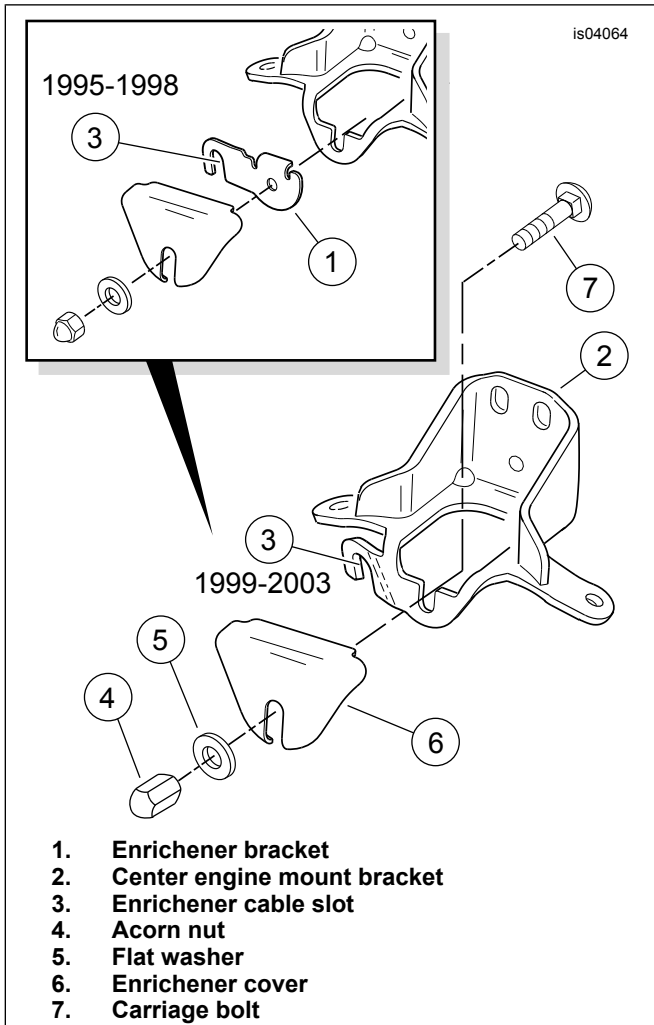

Figure 5. Original Enrichener Bracket, 1995-2003 Models
5. See Figure 5. Loosen the nut on the back of the enricher cable. Remove the cable from the slot (3) in the enricher bracket (1, 1995 through 1998 models) or center engine mount bracket (2, 1999 through 2003 models), and let it hang free.